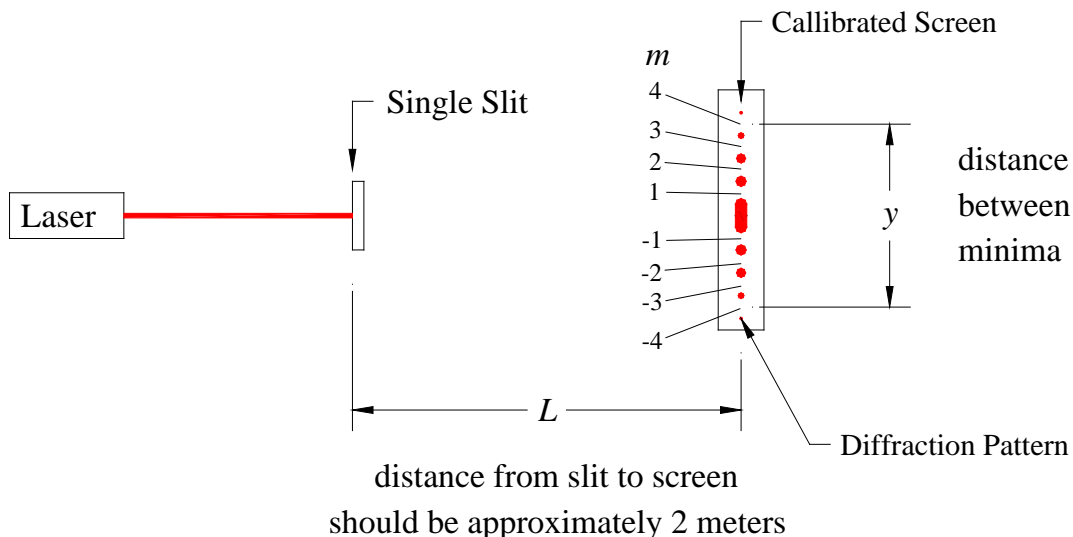

Figure 6 Diagram showing how to observe a single slit diffraction pattern. Notice Δm is 8 for the distance y that is shown.
9) Set up your laser and single slit as shown in Figure 6. Adjust the distance between the slit and the calibrated screen to be approximately 2 meters. Move the slide holder so that slit A is illuminated by the beam of the laser. (The slits are very small and are labeled A to D at the top of the slide.) The diffraction pattern should have a central maximum about 8 to 10 cm wide. Watch the screen and make slight adjustments to the position of the slit until the pattern on the screen is as sharp as possible. Make a rough sketch of the intensity pattern you observe on the screen.
Remember $\Delta m = m_{\text{final}} - m_{\text{initial}}$. So, in Figure 6 Δm is 8 for the distance y between the $m = +4$ and the $m = -4$ minima. Make and record measurements to determine the width of slit B to as high a degree of